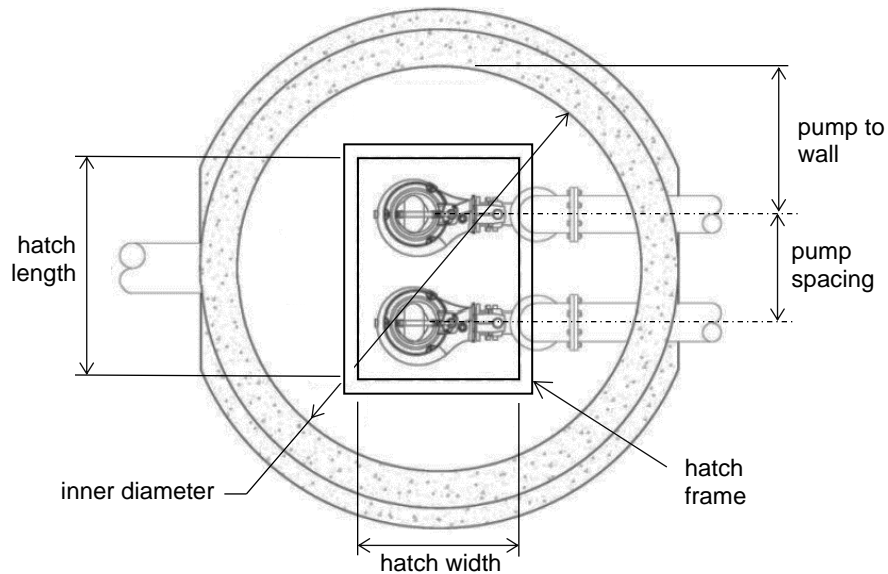

Figure 19: Plan view of a duplex submersible lift station.
- For submersible lift stations, the hatch at the top needs to be large enough to remove all the pumps, as shown in Figure 19. Other types of lift stations also need a hatch for inspection and access.